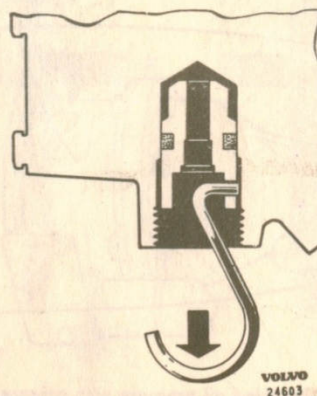

Fig. 3-45. Removing the valve seating, reducing valve
2. Remove the plug and take out the spring (11) and valve (12). Pull out the valve seating (10) with the help of a small hook, see Fig. 3-45.